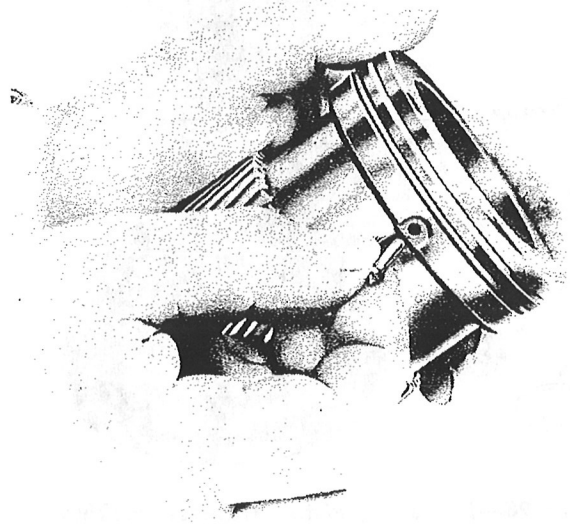

Figure 96—Removing Piston Pin
1. Remove the piston pin. (See figure 96.)